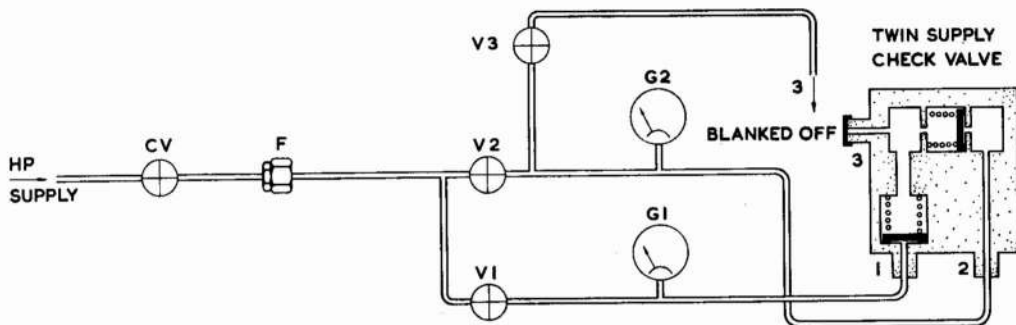

Fig. 6. Test rig, external leakage test, check valve, 6D/2266
- (2) Connect to pressure and leak test rig as shown in fig. 6.
- (3) Open V1 and V2, close V3.
- (4) Adjust CV until both gauges indicate 250 lb/in².
- (5) Immerse twin supply check valve in water. There is to be no leakage in one minute.
- (6) Exhaust the system, dry out the valve and fit transmit blanks.